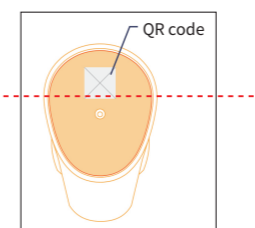

Figure 7 Scan the QR code on the Sensor Base
- Once the connection between your App and the transmitter is successful, you will come to a screen that prompts you to scan or enter the QR code of the sensor. Scan the QR code on the sensor base with your phone as shown in Figure 7. You can manually input sensor information if the code is invalid after scanning for several times. The system enters into the warm up mode after the sensor information is captured.